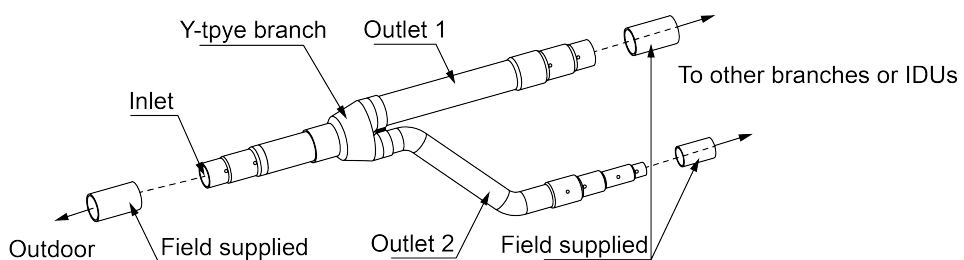

Fig 4.3.6.1
- (2) Y-type branch has several pipe sections with different dimension, which facilitates to match with various copper pipes. Use pipe cutter to cut in the middle of the pipe section that is of proper dimension and remove burrs as well. See Fig. 4.3.6.2.
- (3) Y-type branch must be installed vertically or horizontally.